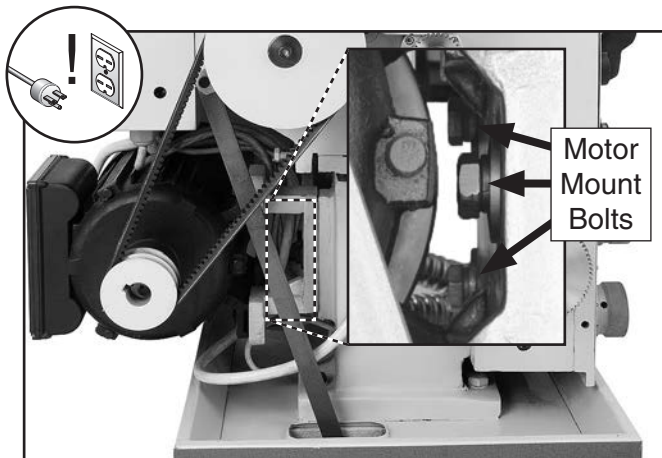

Figure 132. Location of motor mount bolts.
3. Loosen motor mount bolts (see **Figure 132**) .
3. Loosen motor mount bolts (see **Figure 132**), slide motor up, and remove V-belts.